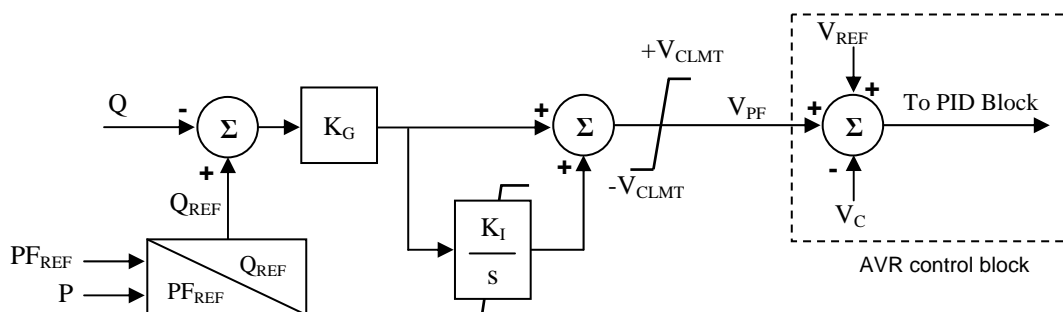

Figure B-6 Block Diagram of PF Controller
The block diagram of power factor (PF) controller is shown in Figure B-6. The PF controller is type II summing type PI controller of IEEE421.5. The PF controller is same as VAR controller except PF setpoint (PF reference) input.